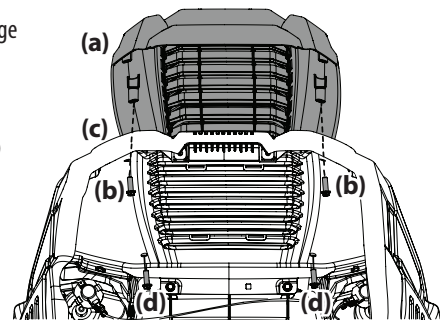

Figure 5
2. Secure the screw-on hood topper (a) from below, hand-tighten the screws (b) on the rear half of the hood and then securely tighten them. See Figure 5.
- With the rear screws in place, align the holes in the hood topper (a) with the holes in the hood (c) and secure in place with remaining two screws (d). See Figure 5.